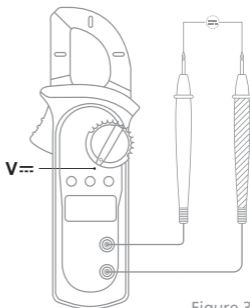

Figure 3
A. DC Voltage Measurement (Figure 3)